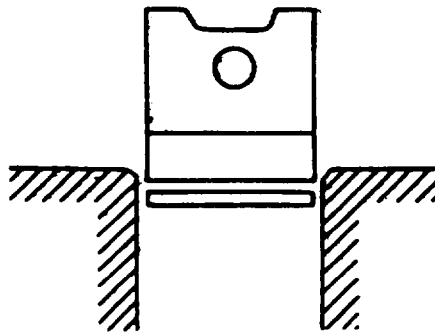

FIGURE 3-81. Piston Ring
- (1) Insert a piston ring horizontally (in position as installed on piston), into cylinder liner bore, refer to FIGURE 3-81.